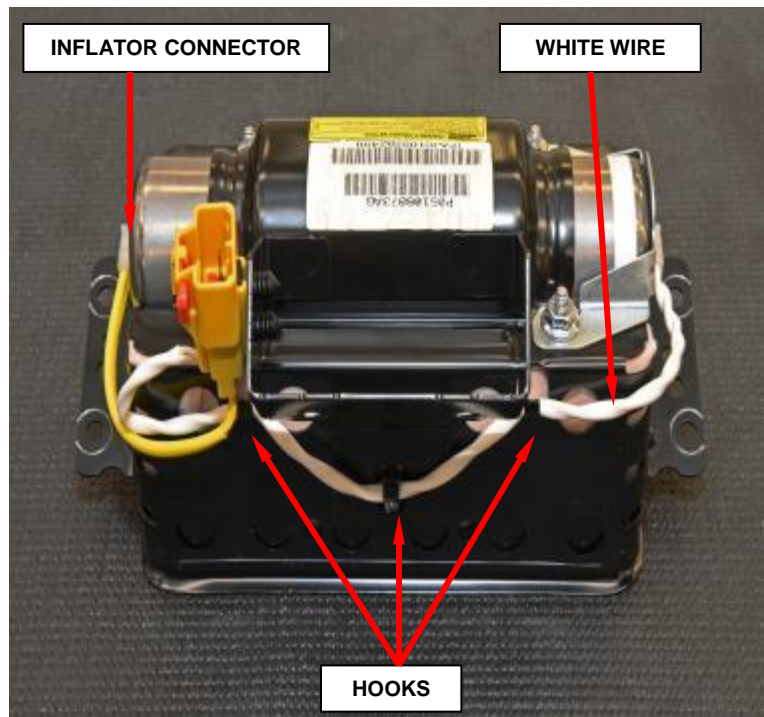

Figure 58 – Retrofit Complete
- l. Attach the white wire to the three hooks on the housing (Figure 58).
- n. Connect the single yellow wire inflator connector to the end of the inflator after removing the protective tape from the end of the inflator (Figure 58).
- o. Passenger airbag retrofit is complete (Figure 58).